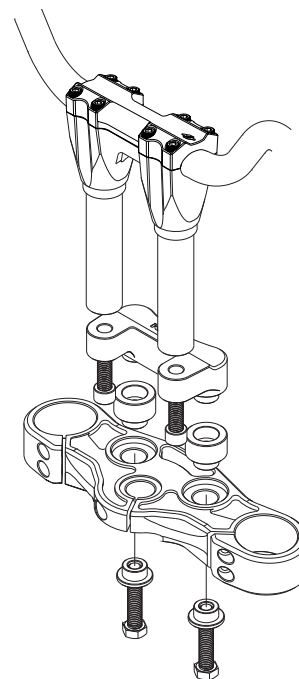

Fig. 1
1. Install bars and risers onto top triple tree. **(See fig. 1)**